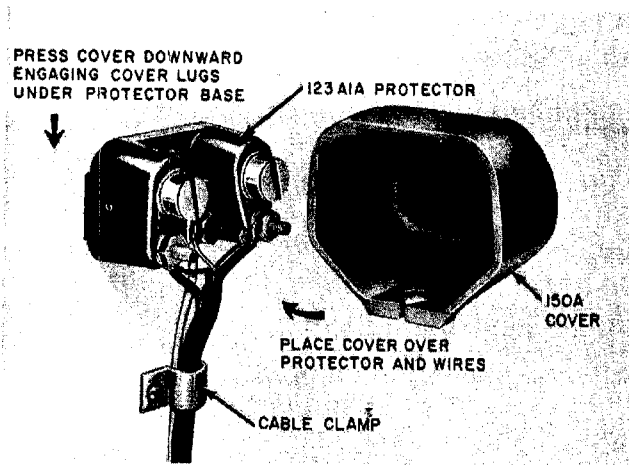

Fig. 10—Installation of 150A Cover
4.09 To protect the 123A1A or 128A1A-2 Protectors at outside installation, a 150A Cover or a 305A2 Protector Mounting is installed over the protectors. The 150A Cover is also used inside when a protective covering is required. Fig. 10 illustrates the installation of the 150A Cover.